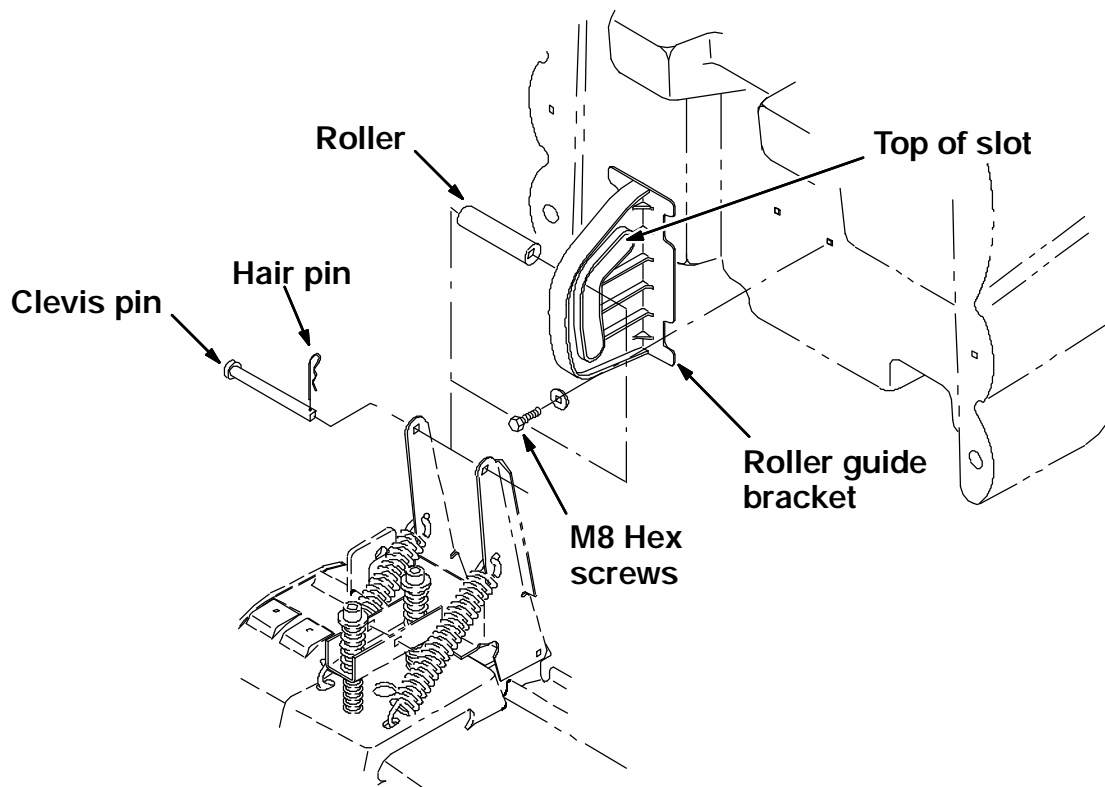

FIG. 3 - Check Scrub Head Guide Roller Clearance
6. The scrub head guide roller should now be almost at the top of the slot on the roller guide bracket. If the roller is not at the top of the slot, loosen the four M8 hex screws and adjust the roller guide bracket so the roller just touches or is slightly away from the end of the slot. Re-tighten the screws to 18 - 24 Nm (15 - 20 ft lb). (Refer to Fig. 3)